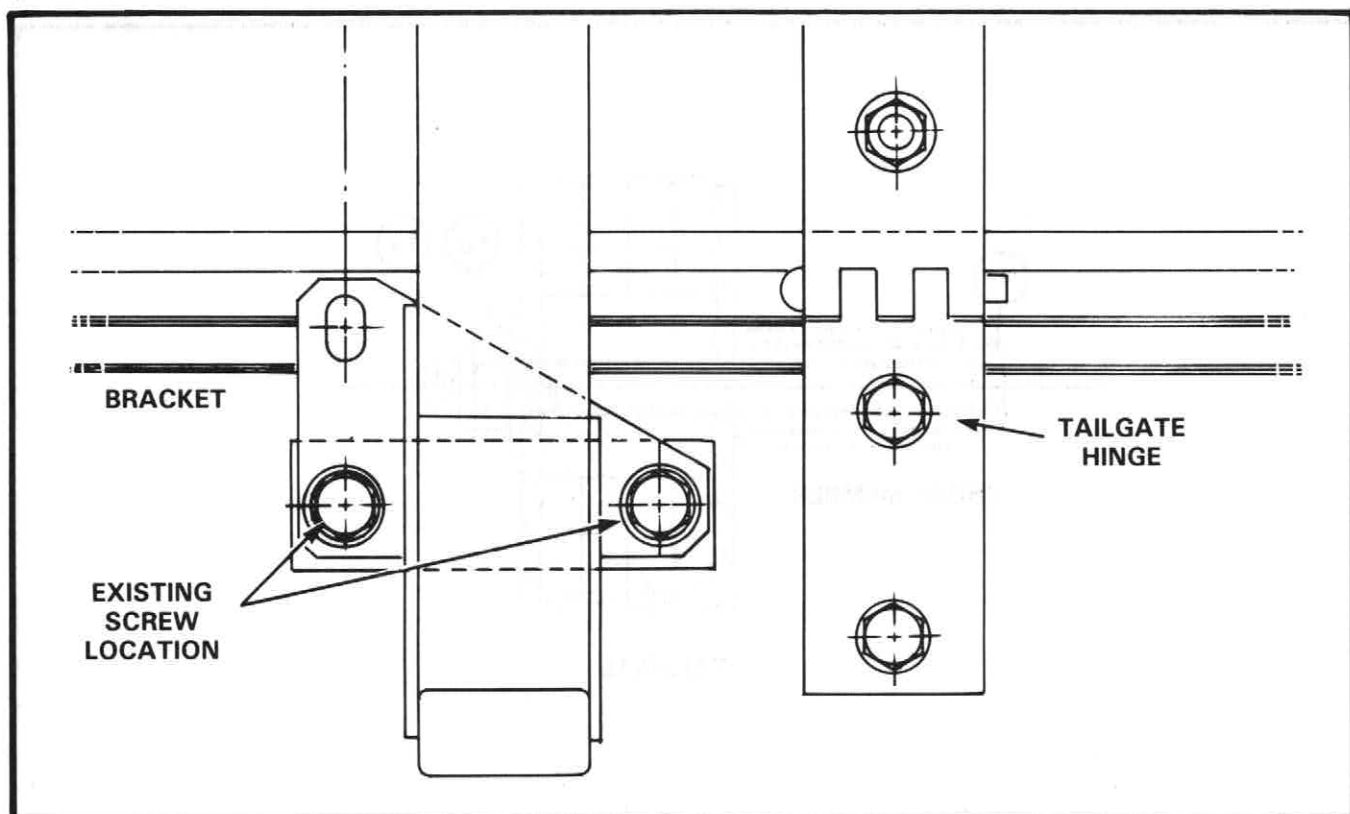

Figure 3 Location of Spare Wheel Carrier Lower Mounting Bracket
- c. See Figure 3. Remove and discard the two existing screws located under the vehicle tailgate and immediately to the left of the tailgate right side hinge. If the screws are rusted, use penetrating oil to loosen.